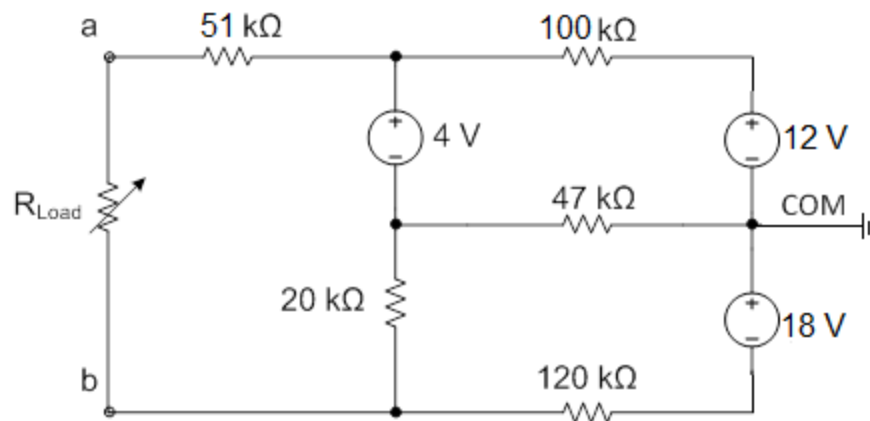

Figure 7-2: Circuit Diagram for Multiple Loads
- Copy the circuit in Figure 7-2 into your lab book.
- Use the Thévenin equivalent circuit to predict the load resistor (connected across a-b as shown in Figure 7-2) that will absorb maximum power. Compute the maximum power. Also find the formula that predicts the value of the power that can be delivered to the load as a function of R_{load} .
- Use NI Multisim to check your work. Build the circuit in Figure 7-2 in NI Multisim with the load resistor you selected in the prior step. Use the wattmeter to find the power delivered to the load resistor. Submit the screenshot of the simulated circuit with the values. Organize a table with your calculated and simulated values for comparison.
2.2 **Maximum Power Transfer:** Thévenin equivalents are particularly useful when circuits have multiple loads, because you do not have to re-calculate the output voltage, current and power from scratch each time. Simulate multiple loads by placing a resistance substitution box across terminals a—b, as shown in Figure 7-2. Set up the both DMMs and set one to measure the voltage across the load and the other to measure the current through the load.
- Circuit of Figure 7-2 with all components properly labeled